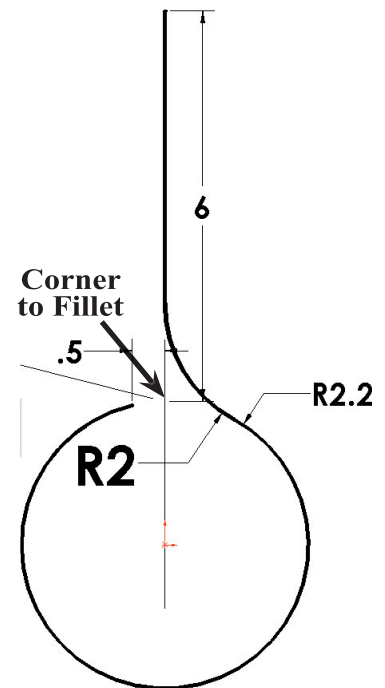

Fig. 7
Step 3. Click the corner shown in **Fig. 7** where the arc and line intersect and click OK **twice** .